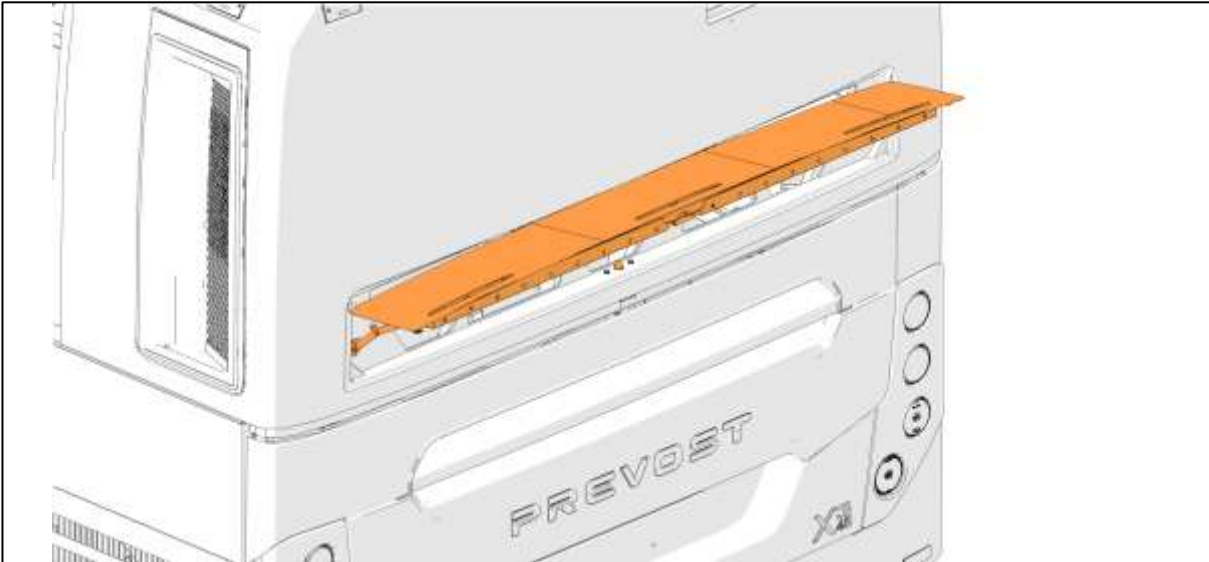

Figure 1: Overview
1. At the rear of the vehicle, locate and open DPF access door.(Figure 1)